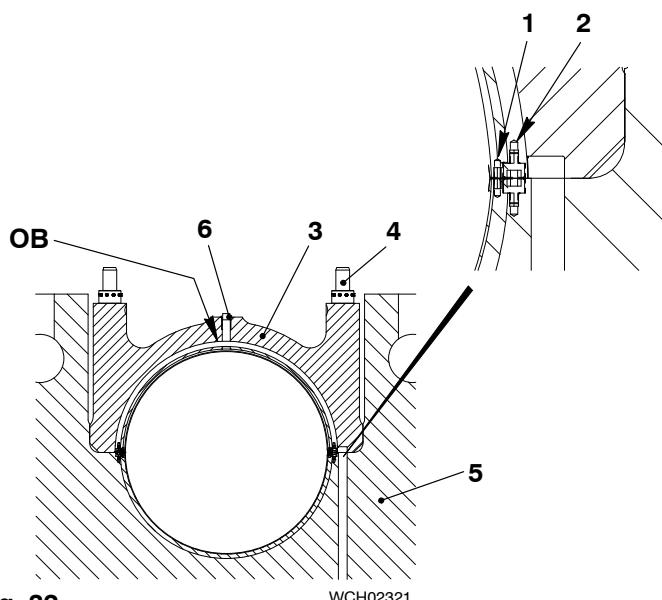
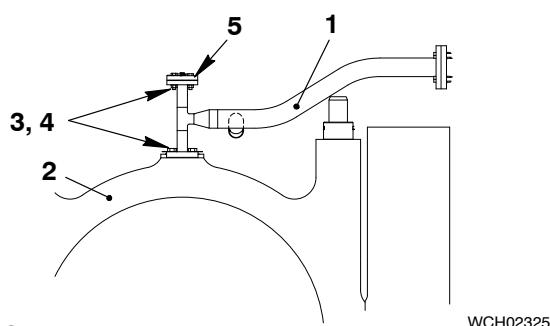

Fig. 32
Fig. 33
- The top bearing shell is attached to the cover with two Allen screws (2, Fig. 32). Make sure the working area during the installation is clean.
- The spring dowel pins (1) help to get the bearing cover (3) in position during the installation.
- Remove all plugs from oil bore (OB).
- Clean all contact surfaces on cover (3) and the bearing girder (5).
- After installation of the cover is completed, apply tension to the elastic studs (4), refer to 1132-1.
- Clean the pipes (1, Fig. 33).
- Install the pipes (1) and their gaskets.
- Tighten the screws (3) and lock them with the new tab washers (4).
- To fill the bearing shell with the oil, remove the blank flange (5, Fig. 33) and the screw plug (6, Fig. 32) on the main bearing cover (3).